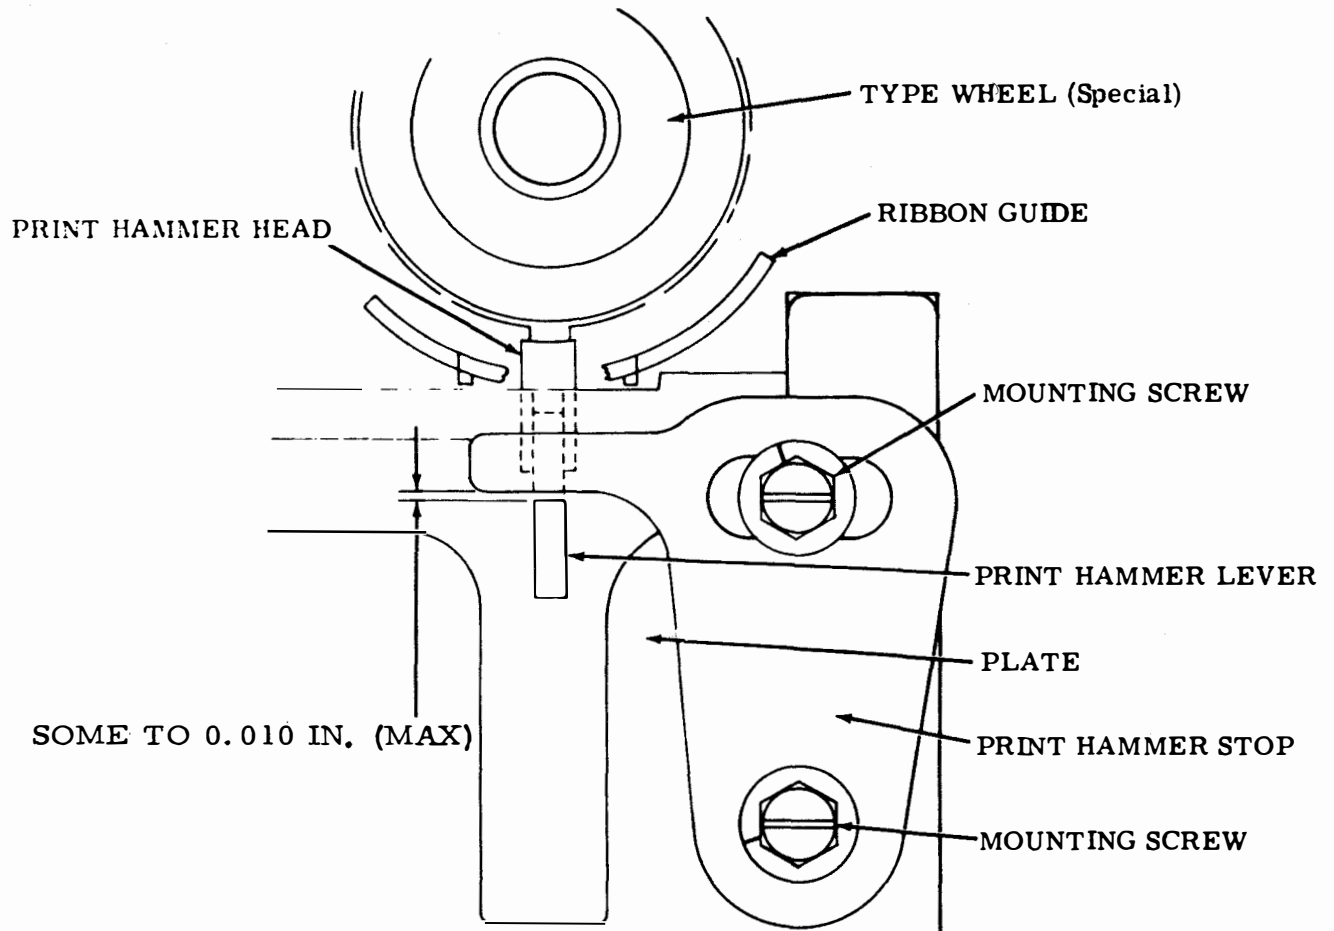
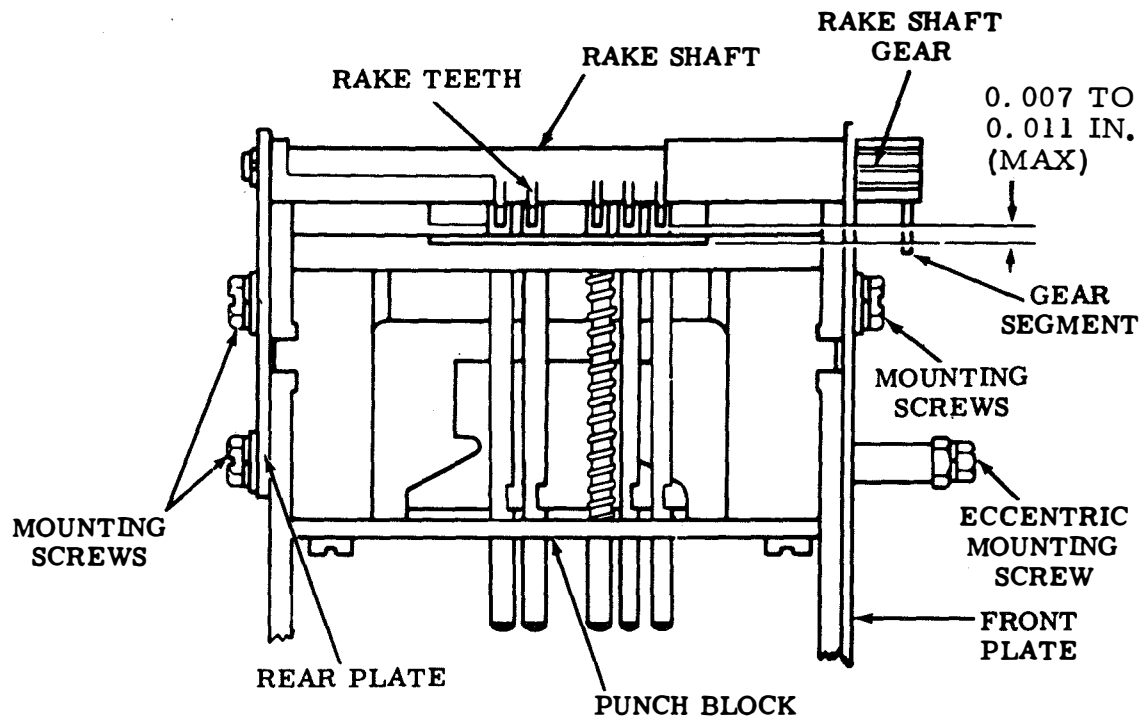

Figure 6-476. Print Hammer Stop (Preliminary and Final).
Figure 6-477. Rake Assembly, Reperforator, Left Side View
(1) Print Hammer Stop (Preliminary). Adjust as follows:
- (a) Refer to Figure 6-476.
(2) Print Hammer Stop (Final). Adjust as follows:
(1) Rake Assembly. Adjust as follows:
- (a) Refer to Figure 6-477.